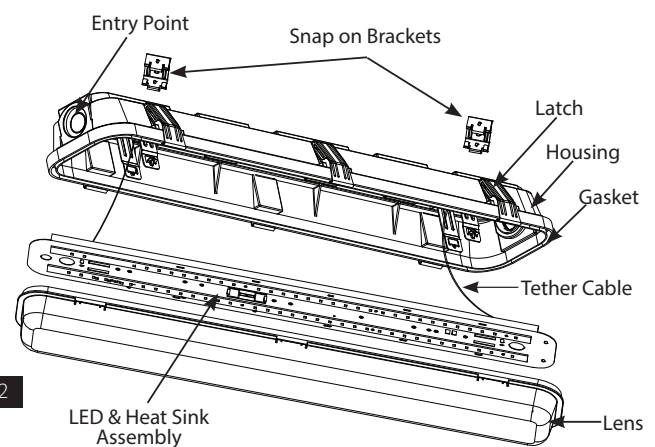

Fig. 2
3. Unlatch the **Lens** from **Housing** as shown in Fig. 2.
1. Release the **Latches** and unlatch the **Lens** from **Housing**. Snap out the LED & Heat Sink Assembly as shown in Fig. 2.